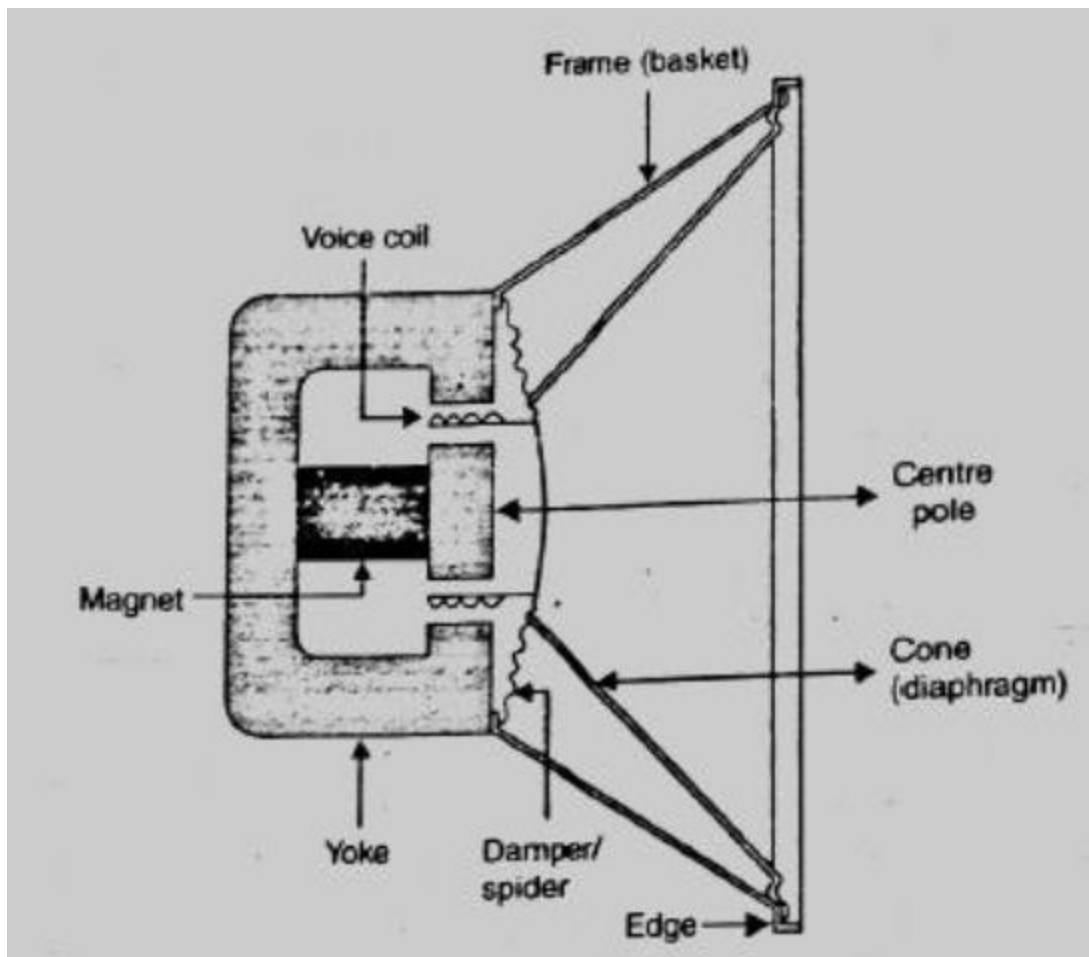

**Figure.1.11 (a) a two way electrostatic utilising a separate woofer and tweeter
There are two varieties of dynamic loudspeakers: electrodynamics and permanent magnet (PM) speakers. Both work in exactly the same way, the difference is in their construction. The electrodynamics speaker has a soft iron magnetic circuit, non-retentive of magnetism, around whose center leg; a large, multilayer field coil is wound, as shown in the Figure.1.11. When dc flows through this field coil, it magnetizes the iron core. A magnetic flux field directly proportional to the strength of the current through the coil is thus set up across the air gap. The iron core is not permanently magnetized; it stays magnetized only as long as current flows through the field coil. Improvements in permanent magnet materials have made the electrodynamics speaker practically obsolete, but some still exist in vintage radios. Note that these use the field coil as part of a choke filter in the power supply, a good example of killing two birds with one stone. The electrodynamics speaker has disappeared completely, so far as hi-fi is concerned, the permanent magnet speaker reigns supreme. 12